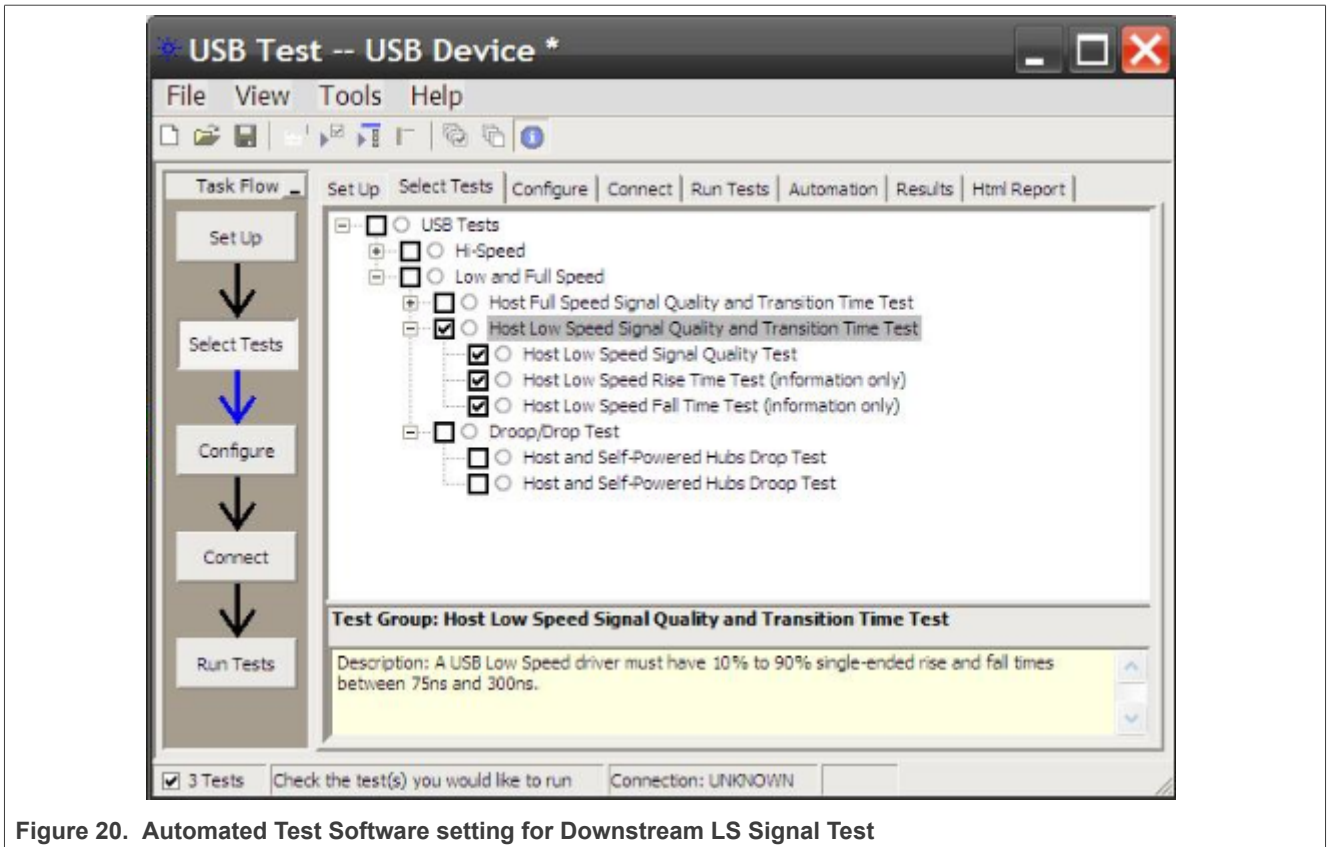

Figure 20. Automated Test Software setting for Downstream LS Signal Test
1. Select the test items in the USB Automated Test Software on Oscilloscope as shown in Figure 20, and make sure you set the Test Type configuration option to “Low-Speed Near End” before running the test.